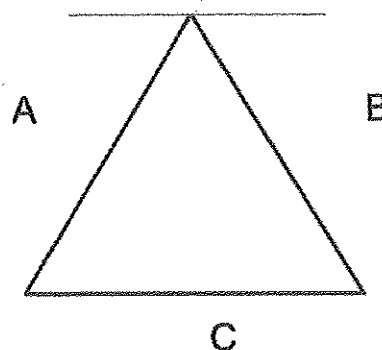

Figure 1/ Rajah 1
- (b) Table 2 shows a relationship between the effects of reflection and distance travelled by a sound. Interpret the condition of a space when a sound is reflected by flat ceiling as shown in Figure 1 by calculating the difference distance using geometric analysis method.